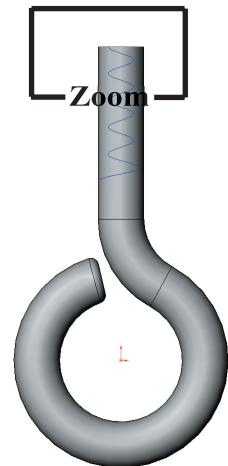

Fig. 21
Step 3. Zoom in around **top end of the eye screw**, Fig. 21. To **zoom**, hold down **Shift key** and drag with middle mouse button (wheel). To **pan**, hold down **Ctrl key** and drag with middle mouse button (wheel).